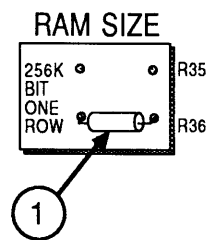

FIGURE 11
- a) Locate resistor R36, marked "ONE ROW" (Figure 11, #1). Using small diagonal cutters, clip the resistor off the board and discard it. (You do not need to desolder the leads from the board.)